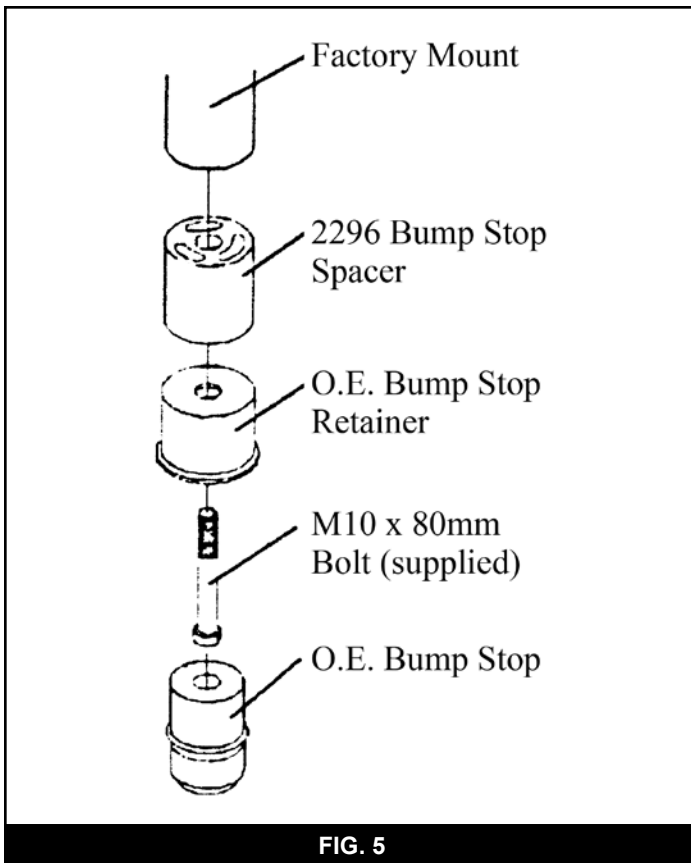

FIG. 5
16. Install the provided bump stop spacer (2296) between the OE retainer cup and the frame with a 10mm x 80mm bolt. Use Loctite on the bolt threads and torque to 30 ft-lbs. Install the OE bump stop in the retainer cup (Fig 5). *Note: A small amount of grease will ease installation of the bump stop.*
10. Install the provided bump stop spacer (2296) between the OE retainer cup and the frame with a 10mm x 80mm bolt. Use Loctite on the bolt threads and torque to 30 ft-lbs. Install the OE bump stop in the retainer cup (Fig 5). *Note: A small amount of grease will ease installation of the bump stop.*